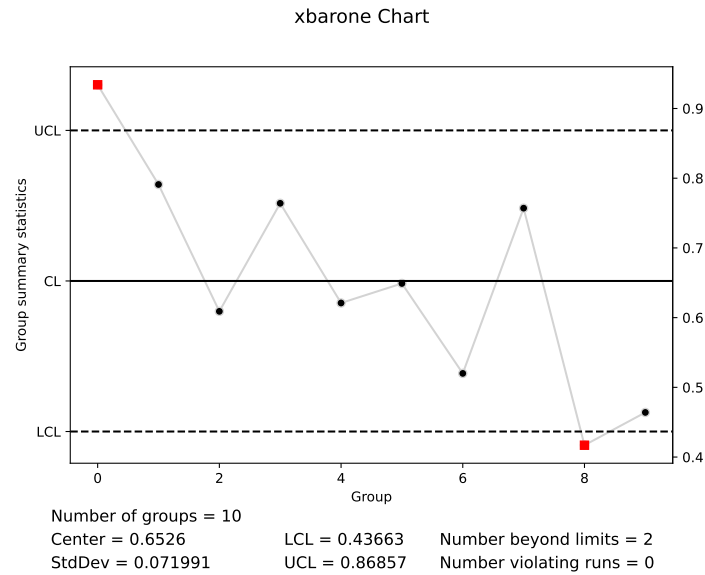

Fig. 2.3: X-barone chart of the **OTURB2.csv** dataset
**Solution 2.4** The following Python code creates the chart shown in Fig. 2.3.